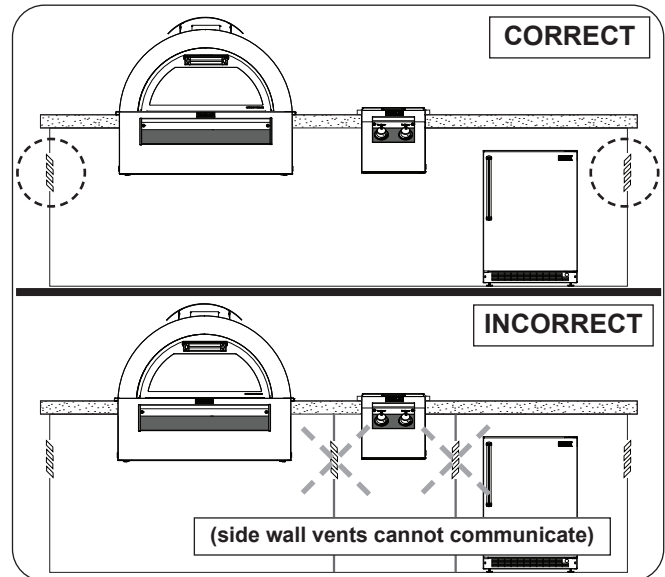

Fig. 12-1 Correct / Incorrect side wall venting
**WARNING:** Vent openings in side walls shall not communicate directly with other enclosures of the outdoor cooking gas appliance (see Fig. 12-1).